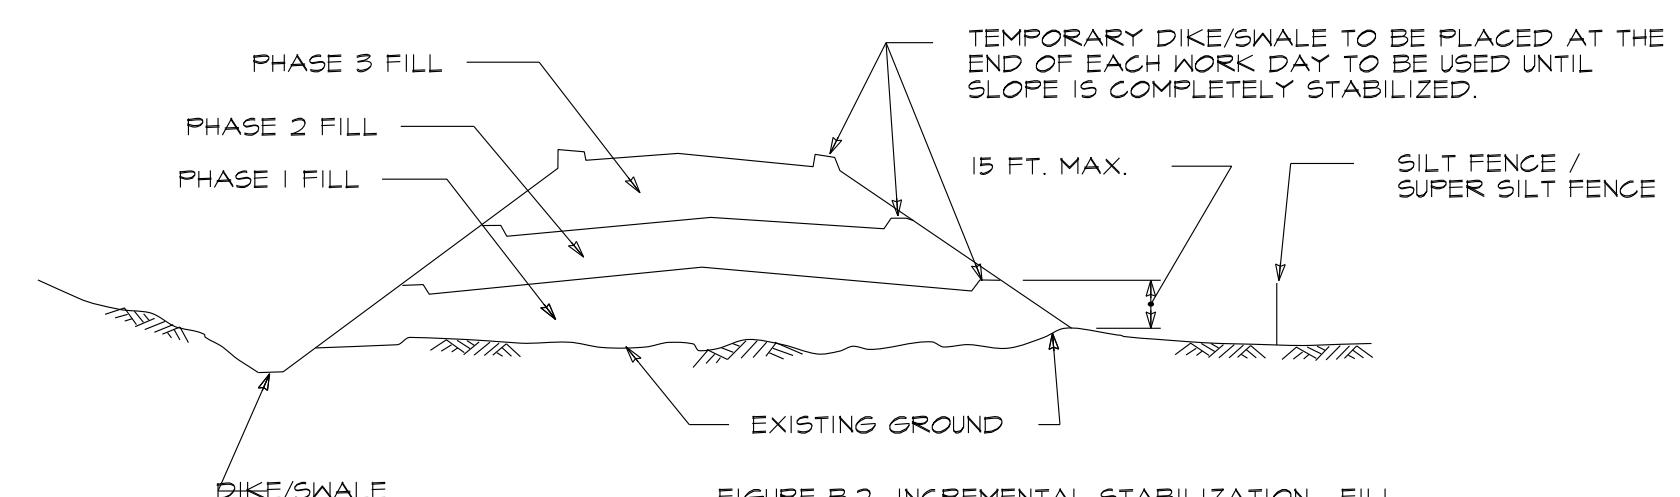

Figure B.2: Incremental Stabilization - Fill
4. CONSTRUCTION SEQUENCE EXAMPLE (REFER TO FIGURE B.2):